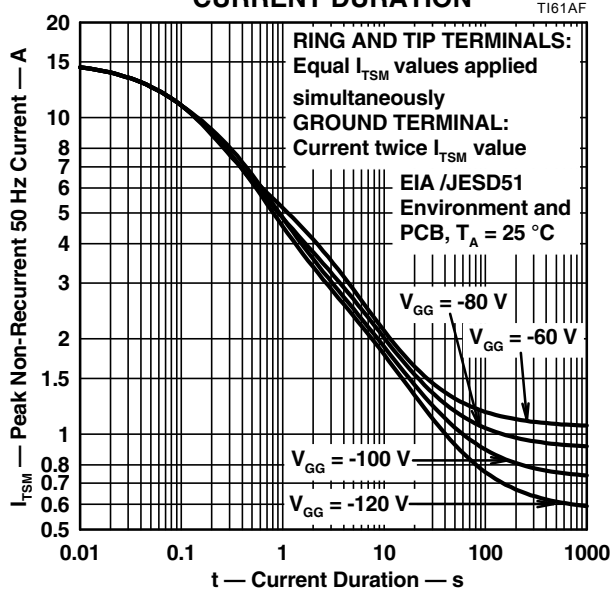

Figure 4
3. Values for $V_{\text{GG}} = -120\text{ V}$. For values at other voltages see Figure 4. Above $25\text{ }^{\circ}\text{C}$, derate linearly to zero at $150\text{ }^{\circ}\text{C}$ lead temperature.